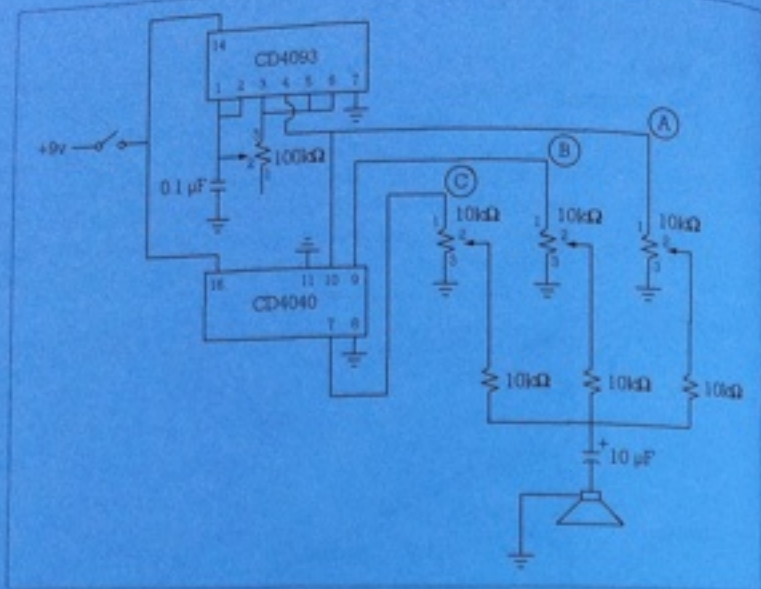

FIGURE 17-6: The Cigar-Box Synthesizer circuit
- Step 3** Since these two chips are in the same family, they have similar layouts (even though the CD4093 only has 14 pins and the CD4040 has 16). Both get power on their final pin (upper-left corner), and both are tied to the ground by the last pin on their bottom row (that is, the one diagonal from the power pin: pin 7 on the CD4093 and pin 8 on the CD4040). Pin 11 on the CD4040 also ties to ground, so start by slipping the 14-pin socket for the CD4093 into the top of the circuit board (i.e., leaving two empty rows above it), and then adding the socket for the CD4040 four rows below (i.e., leaving three rows of empty holes between them; see Figure 17-6). Offset them so that pin 11 on the CD4040 (the lower chip) lines up with pin 7 of the CD4093. To ensure the sockets stay in place as you work, carefully flip the board now and bend down the corner pins on each IC socket.
FIGURE 17-6: The socketed chips on the circuit board, viewed from the top (notice that the 18-pin CD4040 is in an 18-pin socket; the two empty slots are on the socket's right end)